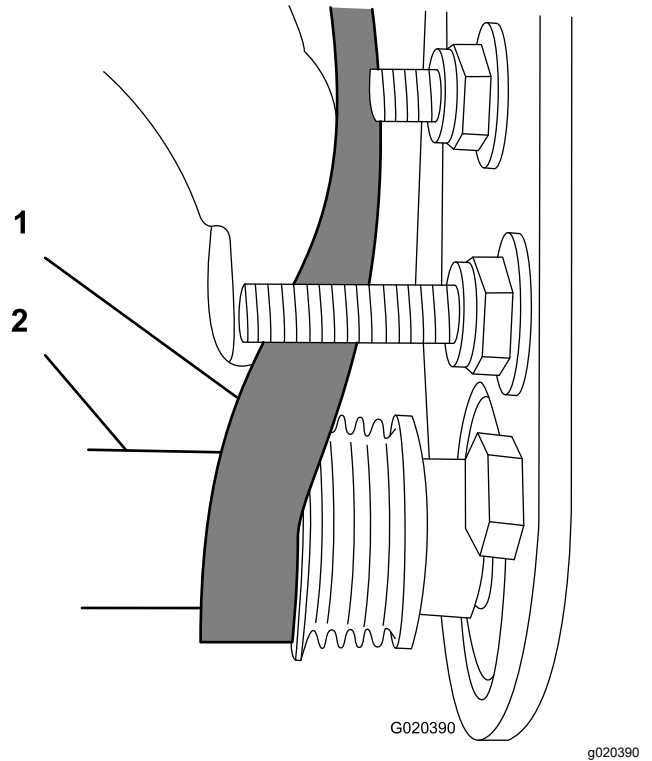

**Figure 26**
- A. Loop the belt around the **drive** pulley and then over the top of the idler pulley (Figure 26).
- B. Start the belt on the **driven** pulley (Figure 26).